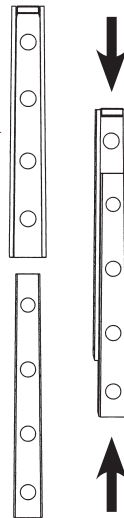

Fig 2
3. The back cushion will be held in place by **interlocking wedge hardware**, as shown in figure 2.